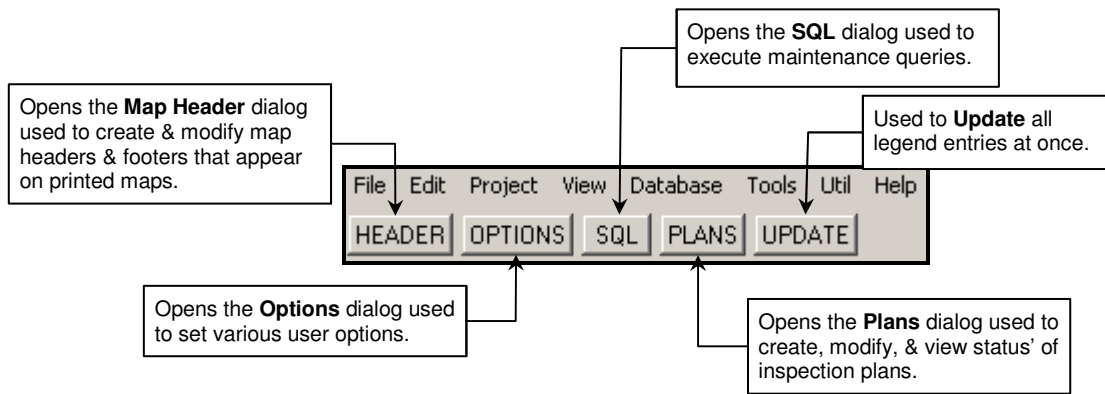
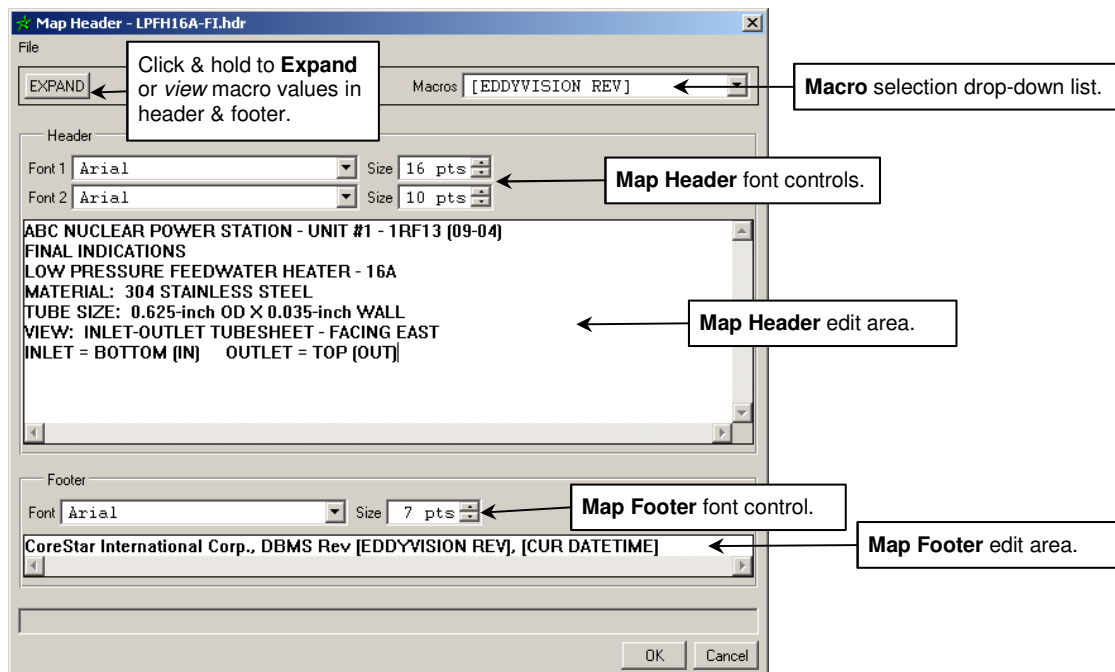
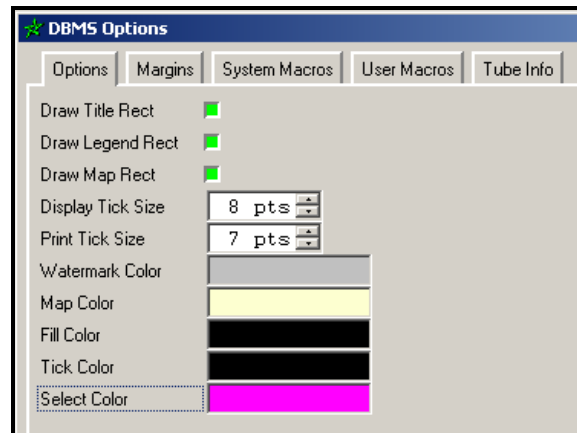

Figure 60. Special Buttons on Main Window
Figure 61. Header Button | Map Header Dialog
Figure 63. Options Button | DBMS Options Dialog | Options Tab
This topic will discuss the purpose and use of each specialized button located along the top of the main DBMS window immediately below the pull-down menus. Review Figure 60 for a brief description about the function of each button.
Clicking the **Header** button in Figure 60 opens the **Map Header** dialog shown in Figure 61. This dialog is used to create and modify map headers and footers that appear on the maps or *plots* printed using DBMS.
This topic will discuss the **Map Header** dialog (Figure 61) beginning with the menu selections, followed by drop-down boxes, on-dialog buttons, and then edit areas.
The **Map Header** dialog has three (3) controls that are used to select the font type and size for the header and footer of a printed map. Review Figure 61 for the locations of the font controls.
To use a macro as part of a **Map Header**, place the cursor where you wish to include a macro, and then select the macro from the **Macros** drop-down list in the upper right corner of the **Map Header** dialog. The macro selected will appear at the cursor's position. In the footer area, shown in Figure 61, two (2) **System** macros are in use, i.e., `[EDDYVISION REV]` and `[CUR DATETIME]`. Note the syntax of the macros – that is, they are all capital letters and enclosed inside square brackets. You may simply type in the macro if you know its name; however, the macro must exist in the project and it must be entered using the syntax above. **System** macros exist in every project automatically, but **User** macros exist only in the project where they were created.
Clicking the **Options** button in Figure 60 opens the **DBMS Options** dialog shown in Figure 63, which has been cropped to enhance the view. This dialog is used to adjust certain user options such as main window background color, enable or disable borders on a printer map around either the title, legend, or map, margins around a printed map, watermark color, user macros, and more. The **DBMS Options** dialog contains five (5) tabs. The purpose and settings on each tab will be discussed below.
This topic will discuss the **DBMS Options** dialog (Figure 63) beginning with each tab and the parameters and settings in each tab.
As shown in Figure 63, there are ten (10) settings or *controls* on the **Options** tab of the **DBMS Options** dialog that may be adjusted by the user. Each control is discussed below.